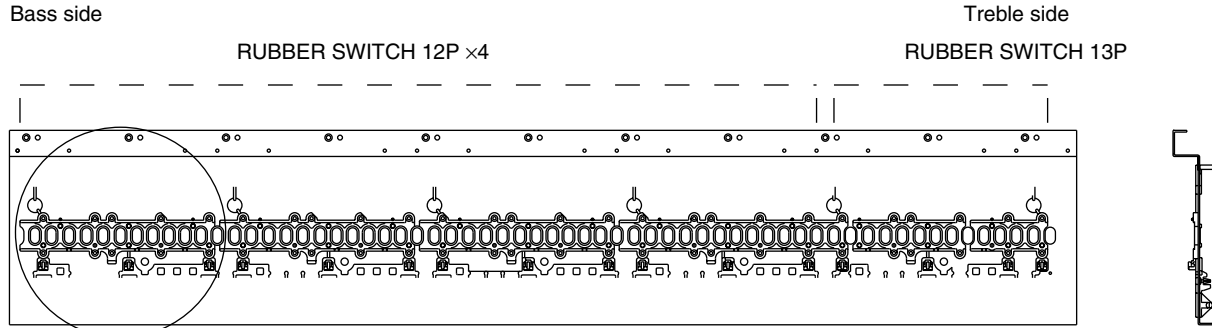
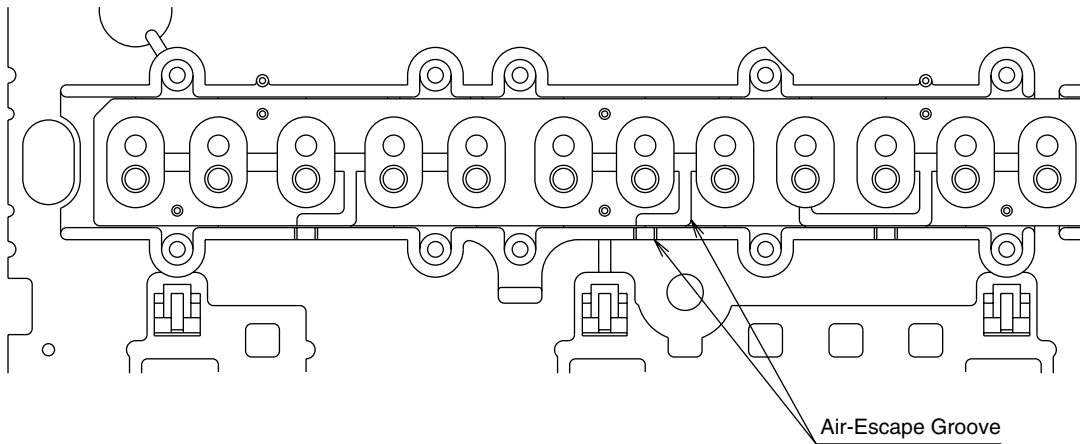

Fig.1
Fig.2
1) Turn over the keyboard as shown in Fig. 1 . Place the RUBBER SWITCH 12P on 4 chassis, from the left (lowest note) upward, with respect to slots in the chassis. Make sure that each switch is aligned with corresponding air groove in the chassis(Fig.2). Similarly, Place the RUBBER SWITCH 13P on the right section (high note) chassis.